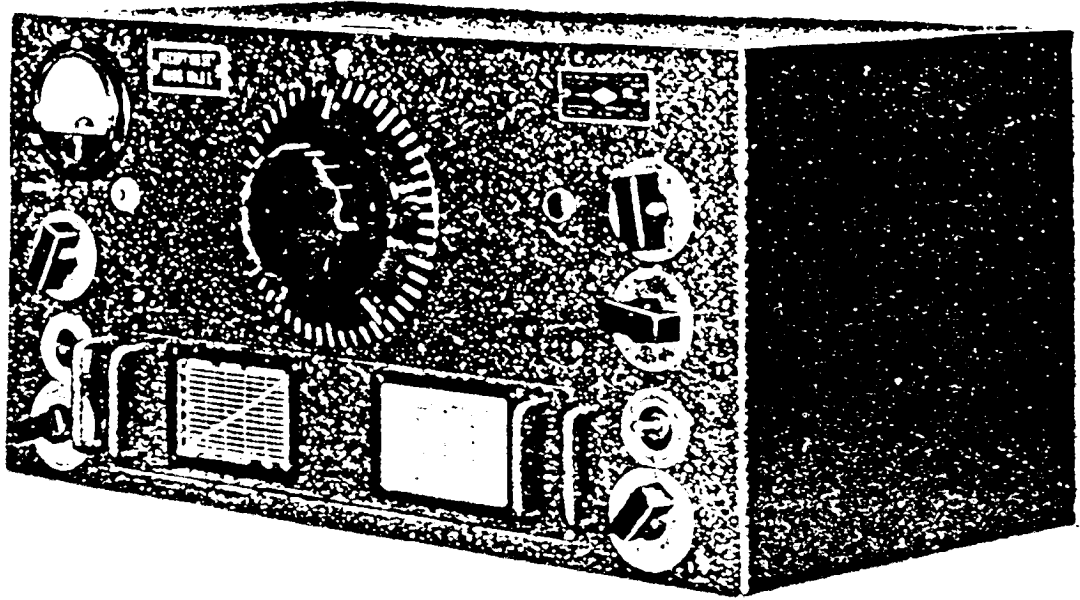

Figure 14. National HRO series of receivers (table models) in cabinet.
a. Radio Receiver R-140/FSM-1 consists of a chassis and sheet metal cabinet. (See fig. 13.) The phone jack, the pilot lamp, and all the controls are located on the front panel. The loudspeaker terminals and auxiliary relay connections are on terminal boards at the rear of the receiver. The cabinet is removed from the receiver whenever it is necessary to expose the tubes or the top of the chassis. To do this, remove the four knurled thumbscrews on the front panel, and three sheet metal screws at the lower rear of the cabinet. The bottom of the chassis is fitted with a gray enameled steel plate to provide protection against dirt and damage. Table models of National HRO receivers are equipped with a cabinet having a hinged top cover. (See fig. 14.)